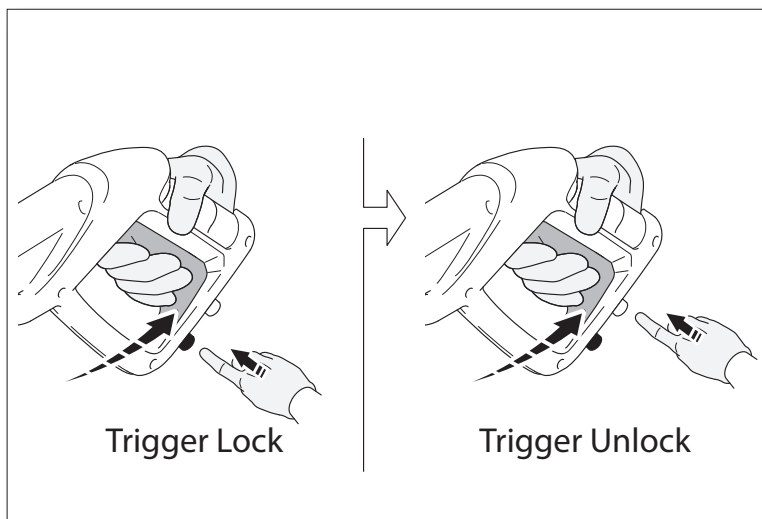

Fig. 21
- Release the safety lock button on the spray gun by pressing the safety lock in the back under the handle **(Fig. 21)**. While pointing the spray gun in a safe direction, squeeze the trigger on the spray gun until there is a steady stream of water, letting the water and air out of the hose. Press the button in front to lock the trigger.
- Turn the power switch to the ‘ON’ (I) position. The unit will turn on for 1 - 2 seconds and shut off, this is a normal function of the (TSS) auto start feature. Squeeze the spray gun trigger to begin pressure washing.